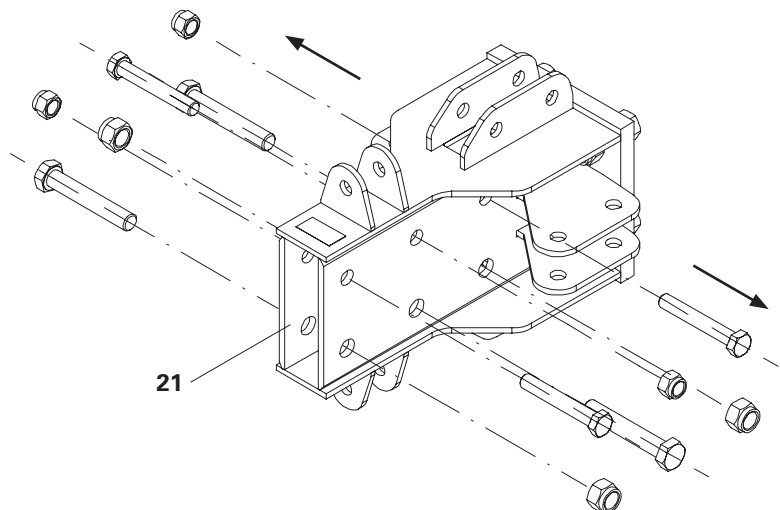

Fig. B2.03
1. Remove all 6 bolt connections from the prop connector VST 48 (**21**). (Fig. B2.03)